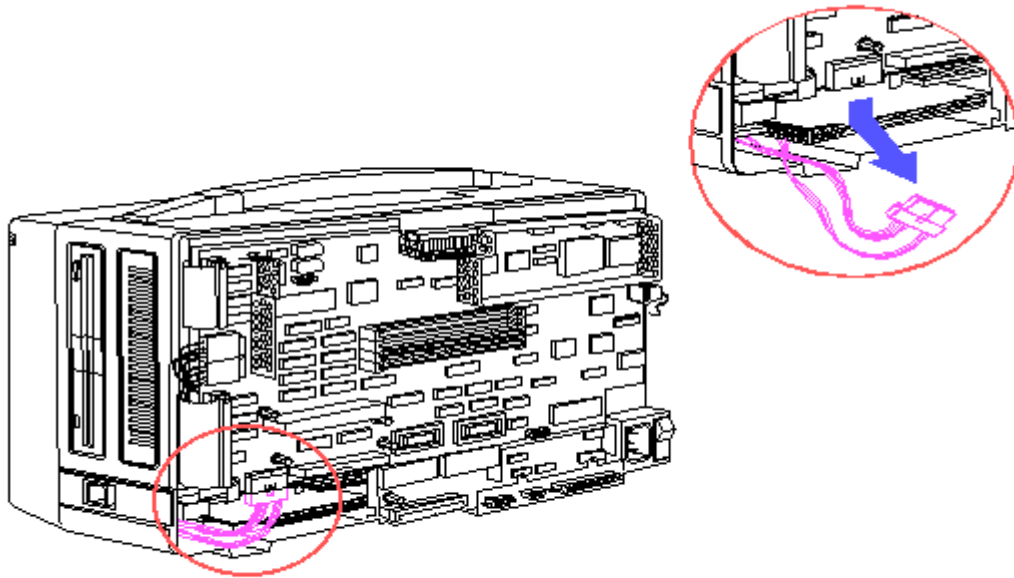

Figure 8-19. Disconnecting the LED/Speaker and Keyboard Cables
4. Press the top tab and disconnect the LED/speaker and keyboard cables from the system board (Figure 8-19).